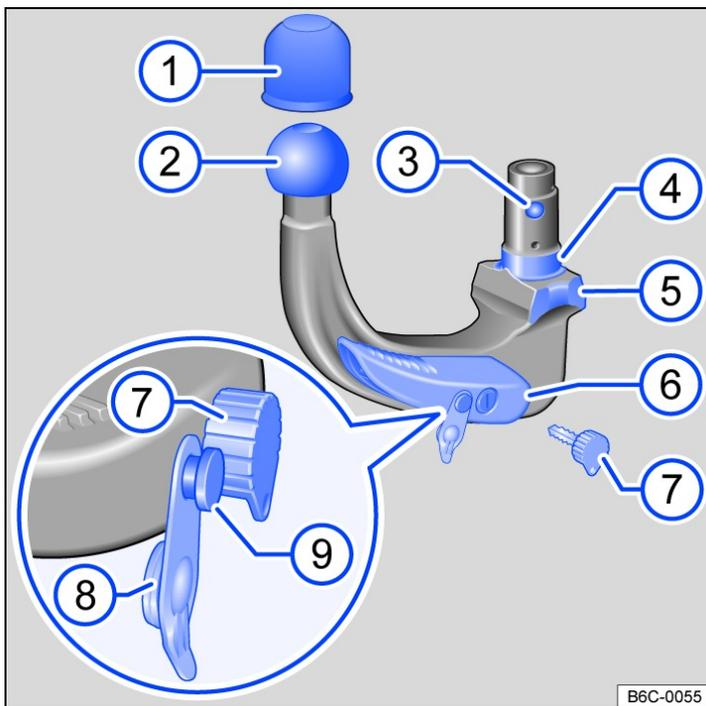

Fig. 1 Overview: removable ball coupling.
- If the smallest diameter on the ball coupling → Fig. 1 ③ is smaller than 49 mm, do not use the towing bracket.
- Remove the lock cap *→ Fig. 1* (8) from the lock in the locking lever and insert the key (7) into the lock.
- Turn the key *→ Fig. 1* (7) anti-clockwise until the part of the key with the hole is at the top.
- Hold the neck of the ball coupling below the ball coupling *→ Fig. 1* (2) with your hand.
- Press the release pin *→ Fig. 1* (9) and at the same time press the locking lever (6) down as far as it will go *→ ⚠*. The ball coupling is pre-tensioned.
- Release the locking lever *→ Fig. 1* (6) and stow the pre-tensioned ball coupling safely with the vehicle toolkit.